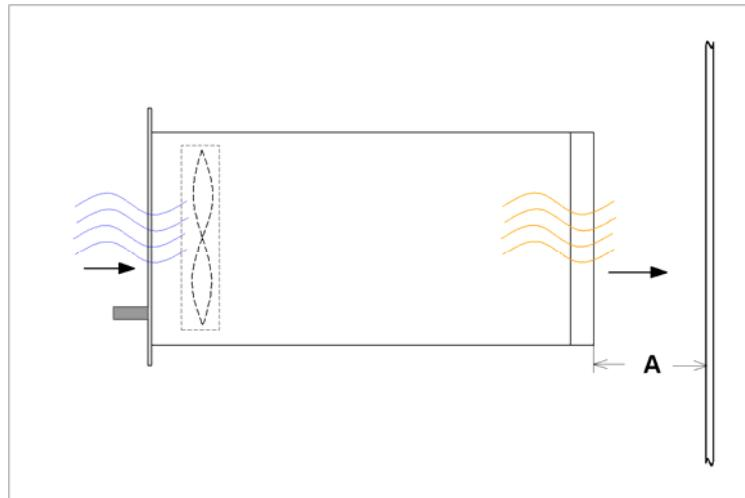

Figure 3) - Rack air flow
| Figure 3) - Rack air flow..... | 10 |
The PSR327 (312) units are cooled with internal fans. The airflow is from the front to rear side. The fans are monitored and speed-controlled dependent on module temperature. To provide sufficient air flow, a minimum space (see figure 3, item "A") of 50 mm is required between the backplane of the rack and the rear cabinet wall as well as an unobstructed supply of air to the front of the modules.